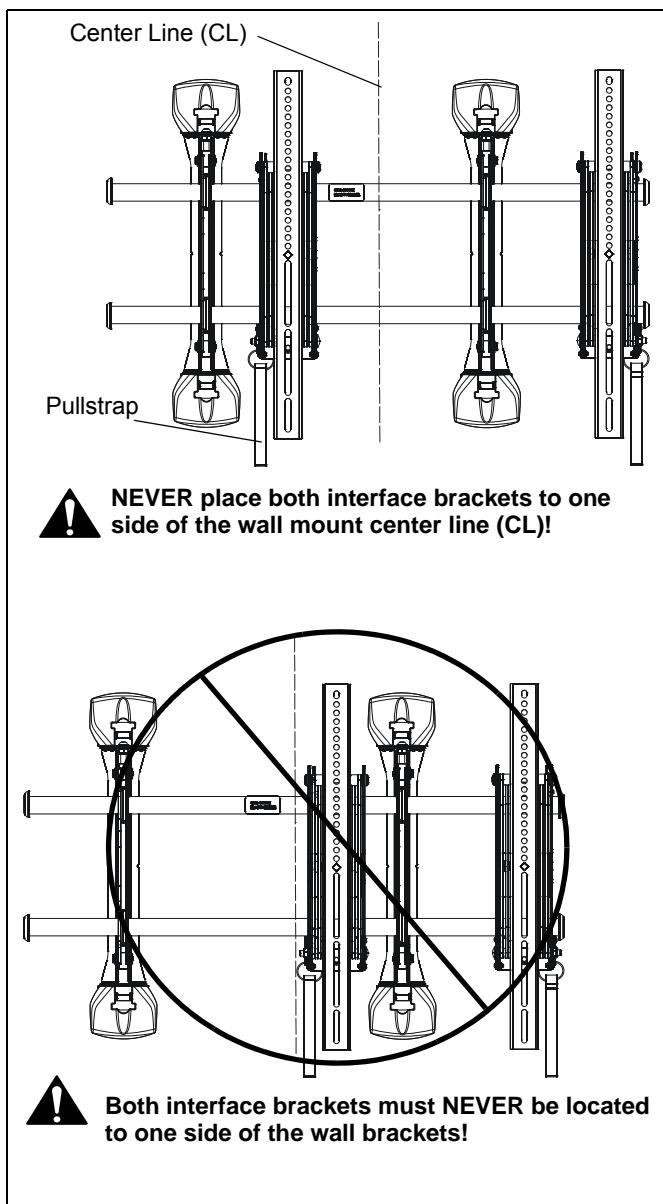

**Figure 10**
1. **(LSMVU only)** Attach wall bracket caps (Y) to top and bottom of both wall brackets. (See Figure 10)